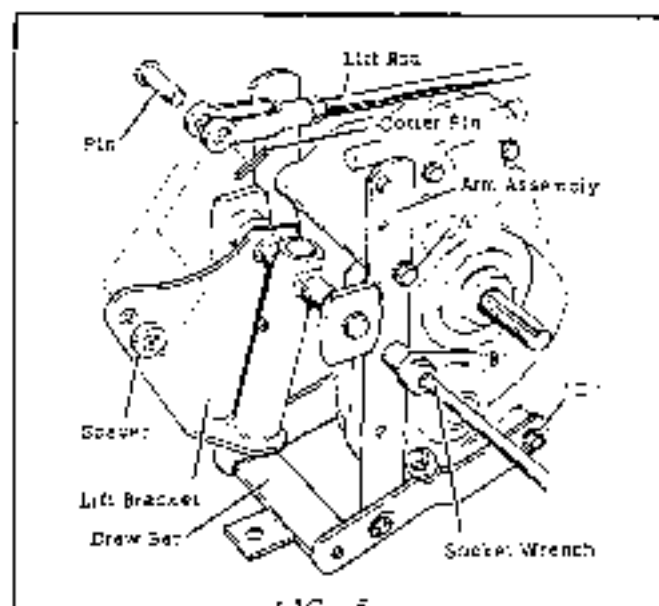

FIG. 5
- b. Mount the drawbar, rear lift bracket, and arm assembly to the transmission as shown in Fig. 5 and fasten with hex cap screws (3 on each side) "A", "B", & "C".